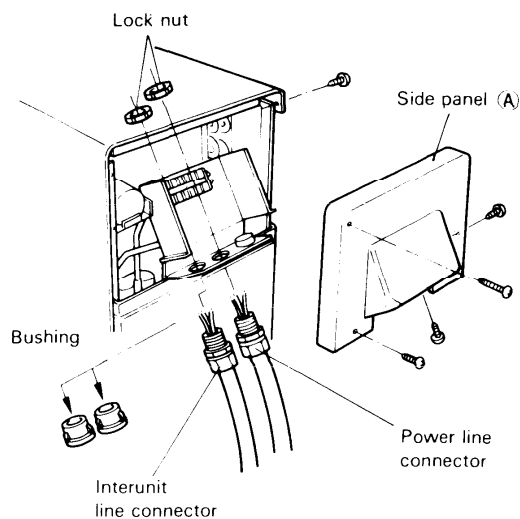

Fig. 11
NOTE : When working only on the wiring, it is possible to gain access to the wiring terminals by simply removing the side panel (A). Fig. 11